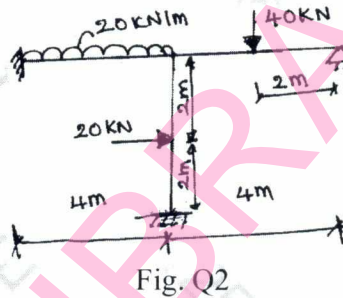

Fig. Q2
- 2 Analyse the frame shown in Fig. Q2 by slope deflection method. Draw SFD, BMD and elastic curve. Take EI constant. (20 Marks)